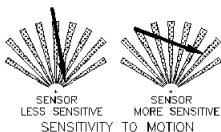

FIGURE 1
4. Where possible, mount the detector so that the logical path of an intruder would cut across the fan pattern rather than directly towards the detector (FIGURE 1).